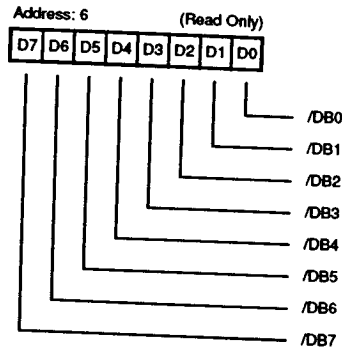

Figure 7. Input Data Register
**Input Data Register. Address 6 (Read Only).** The input Data Register (Figure 7) is a read-only register that is used to read latched data from the SCSI Bus. Data is latched either during a DMA Target receive operation when /ACK goes active or during a DMA Initiator receive when /REQ goes active. The DMA Mode bit (Mode Register bit 1) must be set before data can be latched in the Input Data Register. This register is read under DMA control using /RD and /DACK. Parity is optionally checked when the Input Data Register is loaded.